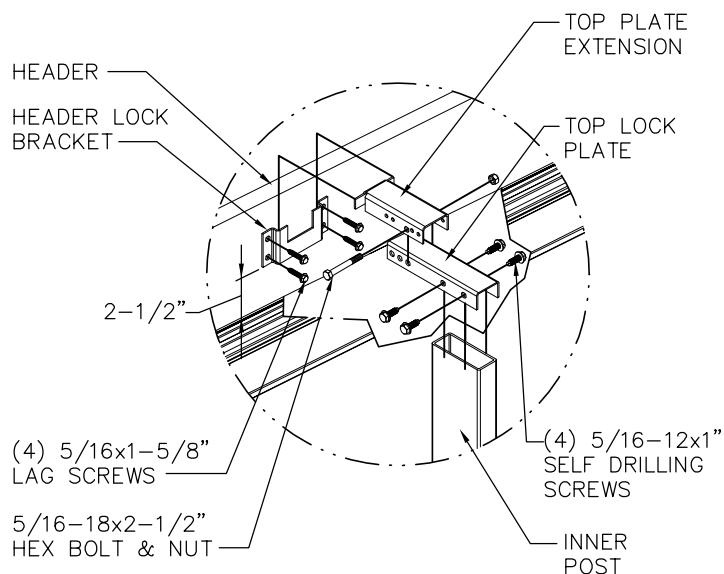

FIGURE 1
ATTACH THE HEADER LOCK BRACKETS TO THE HEADER USING THE (4) 5/16"x1-5/8" LAG SCREWS PROVIDED EACH AS SHOWN IN FIGURE 1. THE HEADER LOCK BRACKETS SHOULD BE IN LINE WITH THE MEASUREMENT GIVEN ON THE WINDLOAD SPECIFICATION OPTION CODE DRAWING AND LOCATED SUCH THAT THE BOTTOM OF THE BRACKETS ARE APPROXIMATELY 2-1/2" ABOVE THE TOP OF THE DOOR. REFERENCE WINDLOAD SPECIFICATION OPTION CODE DRAWING FOR DIMENSIONS OFF THE CENTER LINE OF THE DOOR.
ALIGN THE LARGE DIAMETER HOLE IN THE TOP PLATE EXTENSION WITH THE THIRD HOLE IN THE TOP LOCK PLATE AS SHOWN IN FIGURE 1 AND BOLT TOGETHER WITH (1) 5/16-18x2-1/2" HEX BOLT AND NUT. ALIGN THE ASSEMBLY OVER THE TOP OF THE INNER POST AND SECURE WITH (4) 5/16-12x1" SELF DRILLING SCREWS THROUGH THE HOLES PROVIDED IN THE TOP LOCK PLATE. SLIDE THE OPPOSITE END OF THE INNER POST INTO ONE END OF THE OUTER POST.